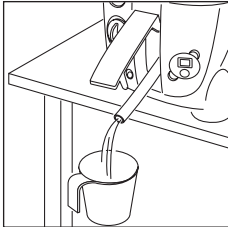
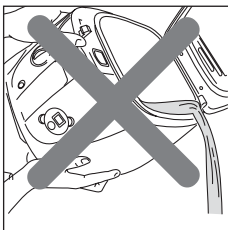

fig. 12
fig. 13
4. Let the liquid flow out into a container (Fig. 12), ensuring that it does not spill. Never empty the deep fryer by tilting it or turning it upside down (Fig. 13). **Always empty the oil before removing the bowl from the fryer.**